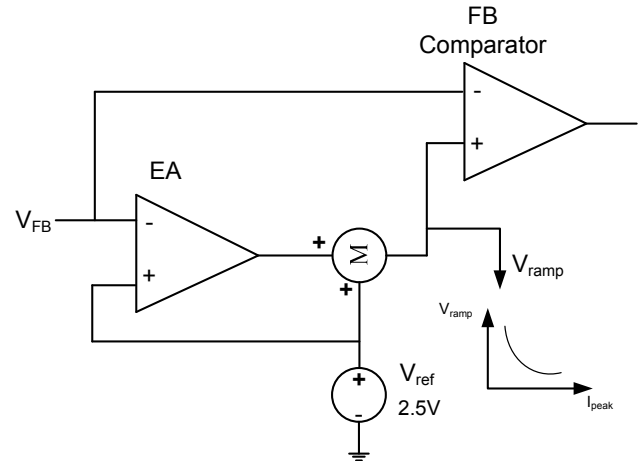

Figure 5: EA and Ramp Compensation
To improve load regulation, the MP150 implements an error amplifier (EA) compensation function (Figure 5). The MP150 samples the feedback voltage 6 $\mu$ s after the MOSFET turns off. EA compensation regulates the 2.5V reference voltage with the load, thus improving the power module regulation.
An internal ramp compensation circuit precisely maintains the output voltage. An additional exponential voltage sinking source pulls down the feedback comparator's reference voltage as shown in Figure 5. The ramp compensation is relative to the load conditions: Under full-load conditions, the compensation is ~1mV/ $\mu$ s; With a